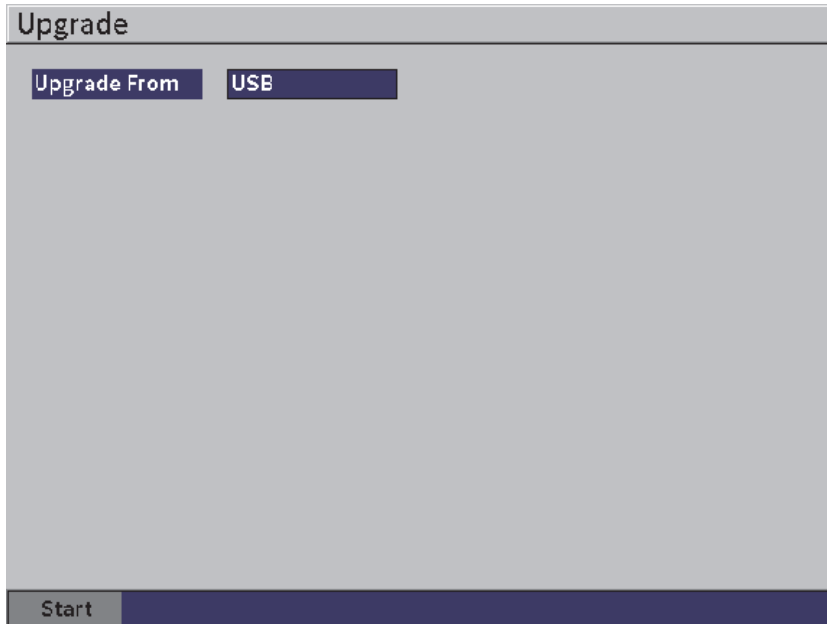

Figure 5-14 Upgrade setup page
1. Select the **Upgrade** icon () to open the **Upgrade** setup page (see Figure 5-14 on page 76).